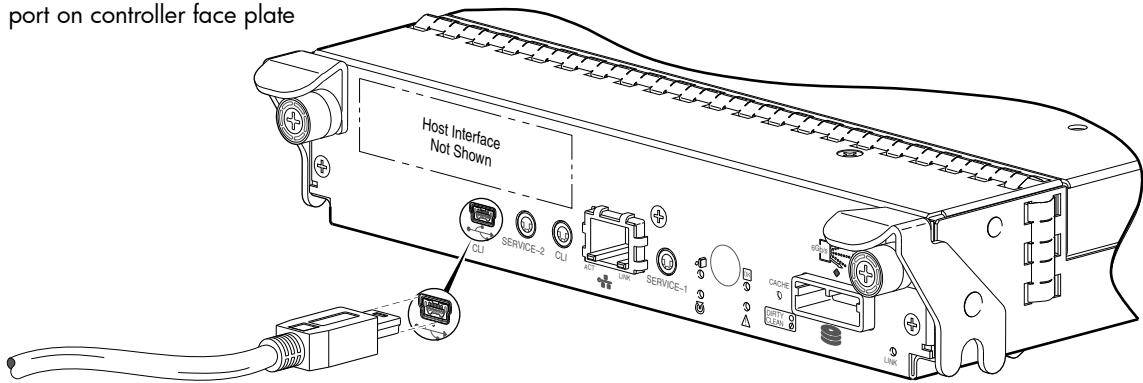

Figure 30 Connecting a USB cable to the CLI port
2. Use the provided USB cable to connect controller A to a USB port on a host computer. The USB mini 5 male connector plugs into the CLI port as shown in Figure 30 on page 42 (generic S3200 controller module shown).
If communication with the CLI is disrupted when using an out-of-band cable connection, communication can sometimes be restored by disconnecting and reattaching the mini-USB CLI cable as described in step 2 and Figure 30 on page 42.